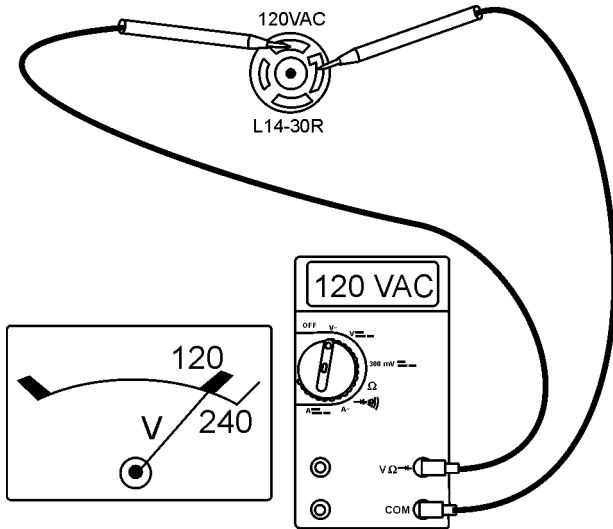

Figure 23. 120/240V Receptacle (120V)
- The L14-30R receptacle is a dual voltage receptacle (120-240 volts). Reference Figures 23 and 24 to verify voltages at this receptacle.